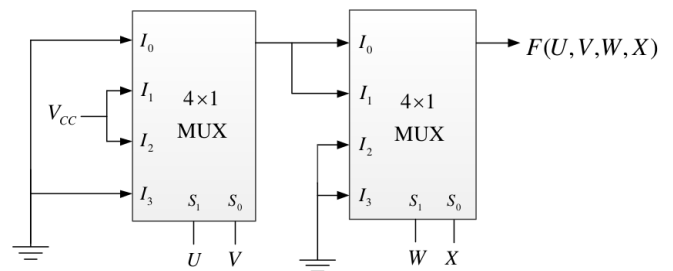

Fig. 4.19
35. A four-variable Boolean function is realized using  $4 \times 1$  multiplexers as shown in the Fig. 4.19.